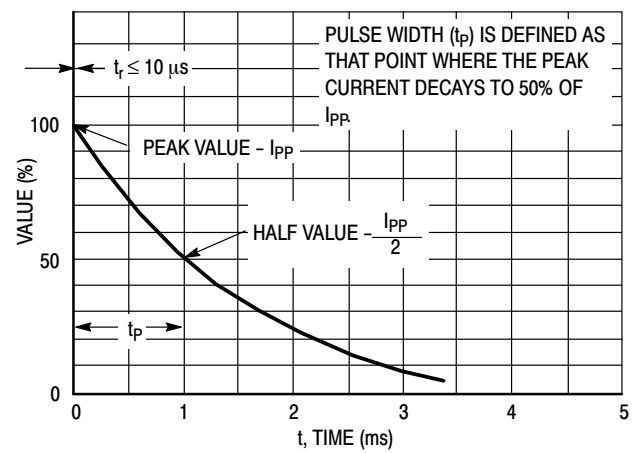
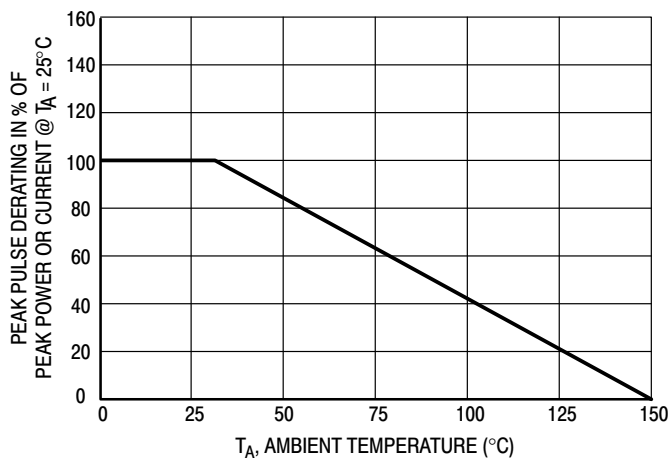

Figure 2. Pulse Waveform
Figure 3. Pulse Derating Curve
- Surge current waveform per Figure 2 and derate per Figure 3 of the General Data – 600 Watt at the beginning of this group.